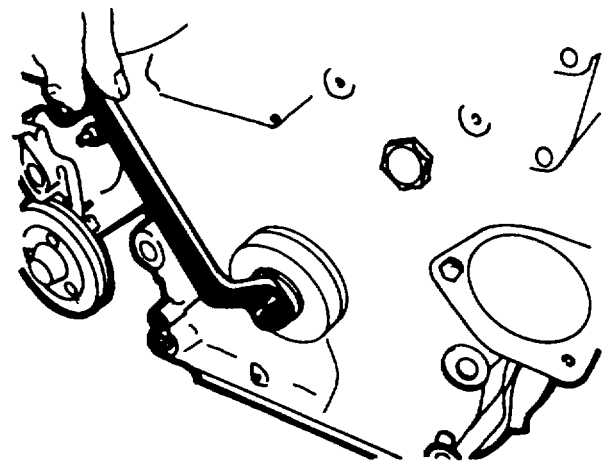

Figure 5-54. Pressing on Radial Seal Ring with Fitting Device
3. Install crankshaft seal in such a way that lip faces inwards. Press on ring with installation device (figure 5-54).